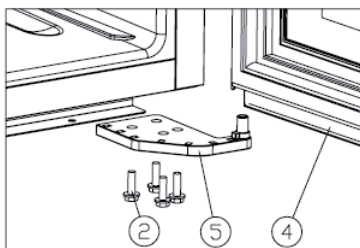

Figure 2
3. Unscrew the M5 x 16 screws **(2)** and dismantle the right lower hinge **(5)** (see figure 2).